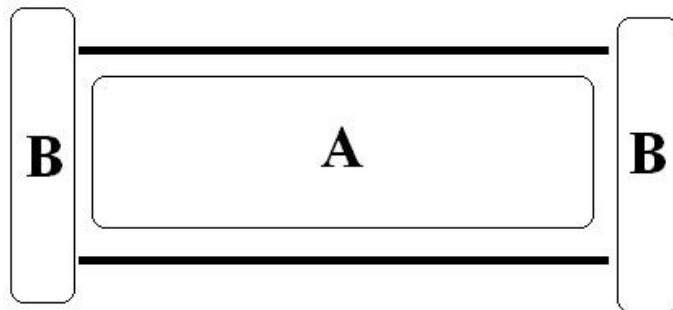

Figure 1.6: Regions near the parallel plates. Note that region A is between the two plates and region B is beyond the ends of the plates.
2. **Measure electric potential.** Use the electric potential probe to find at least six points having the same electric potential in the region between the plates (region A in Fig. 1.6) and record these points on your grid sheet. Then, find four points extending beyond the region of the plates having that same electric potential (two points in each region B shown in Fig. 1.6).
4. Given your answer to Question 3, how does the electric field inside the plates change with position (look at region A, not region B, of Fig. 1.6)?